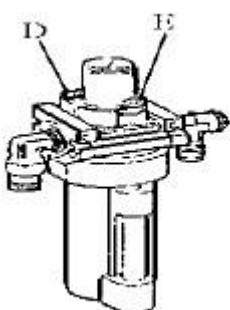

Figure 19
Unscrew with hex wrench (E). Based on connection of compressed air, first to tread jaws open and close pedal or turntable rotation pedal 5-6 times, and then check whether oil in oil fog maker drops down a drip of oil. For continuous operation, tread twice every time, drop down a drip of oil, otherwise adjust the screw (D) that controlled oil enter with minus screwdriver (figure 19 below).